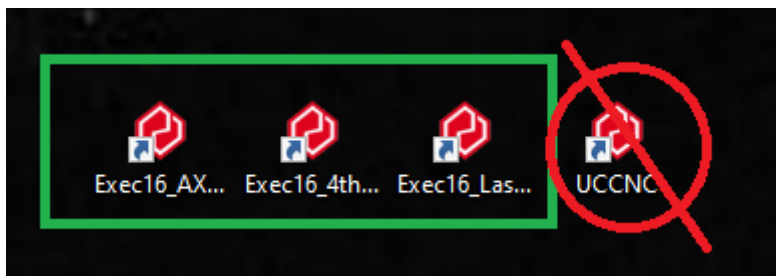

Figure 21: The UCCNC shortcut you should now have on the desktop
- Double click on the icon on your desktop that the profile installer created in Step 3. This should be “machine Model here” on the desktop (as shown in Figure 21)